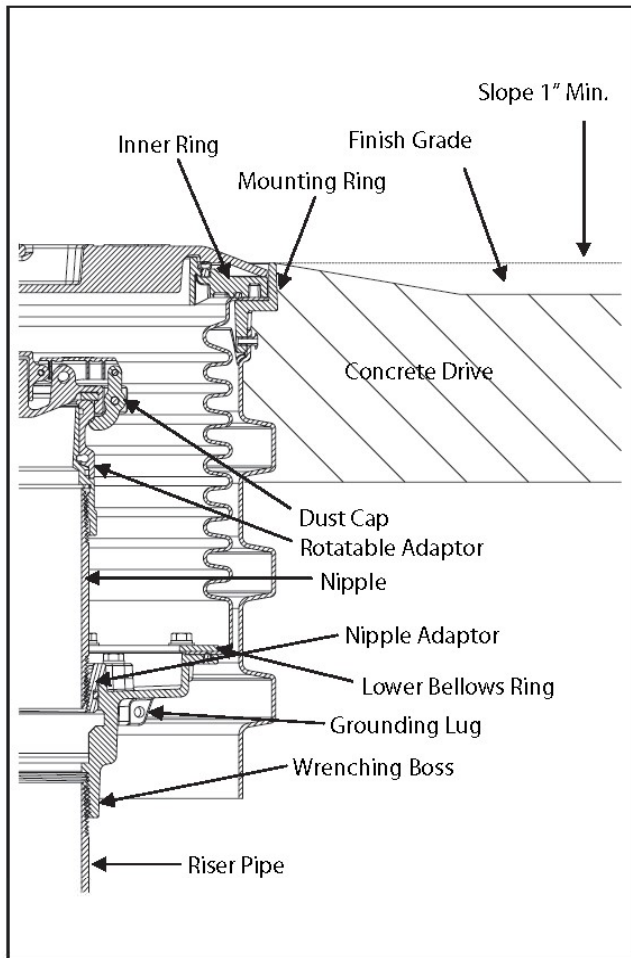

Figure 2
Step 4: (See Figure 2)
Step 5: (See Figures 2 & 3)
Step 9: (See Figures 2 & 5)